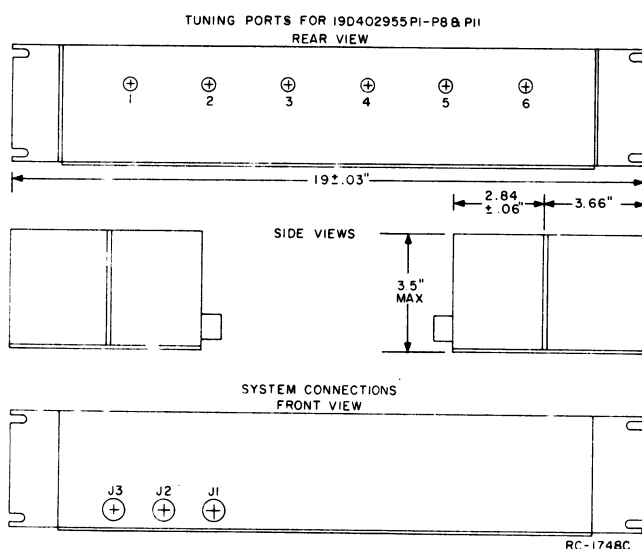

Figure 4 - Duplexer Outline Diagram
2. Remove the plug-buttons from tuning ports 4, 5, and 6 (see Figure 4). Then loosen the locking nuts on the cavities to be tuned.
- If the receiver frequency is Higher than the transmitter frequency, connect the cables as follows (see Figure 4):